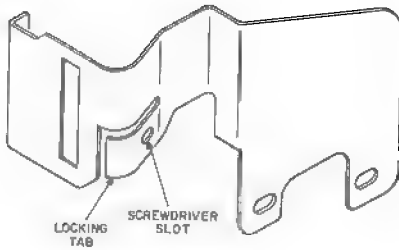

Fig. 25—P-23F361 Entrance Step
- (a) The P-23F361 entrance stop (Fig. 25) is installed on the chute to minimize coin chute stuffing. When the coin release lever is operated, the entrance stop moves sideways and closes the coin slot.
- (b) On later production entrance stops, a prefabricated locking tab arrangement (Fig. 25) can be bent with a screwdriver, by authorized personnel, to hold the upper plate assembly off normal. This will prevent customer coin deposits in newly installed coin telephone sets awaiting initial service connection, or those that are out of service which require further maintenance or repair.
- (1) Remove coin chute totalizer assembly.
- (2) Remove and retain two No. 6-32 by 5/32 RHM screws (P-218068) which secure the old entrance stop. Discard old entrance stop.
- (3) Install the new entrance stop in the same location using the hardware retained.